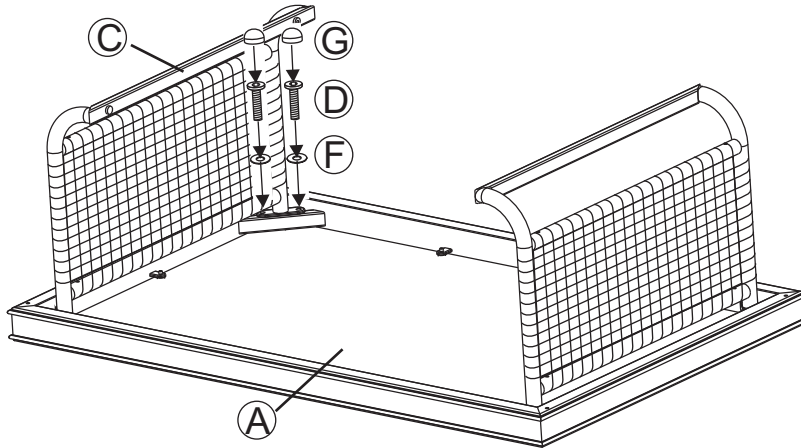

Figure 1
- 1 Place the table top upside down on a flat, non-abrasive surface. Attach a table leg to the table top by using four 1/4"x20 mm bolts and washers as shown in the **Figure 1**. Guide the bolts through the holes in the table leg, into the pre-drilled holes in the table top. **Hand tighten 2-3 turns only**. Repeat on the other leg.